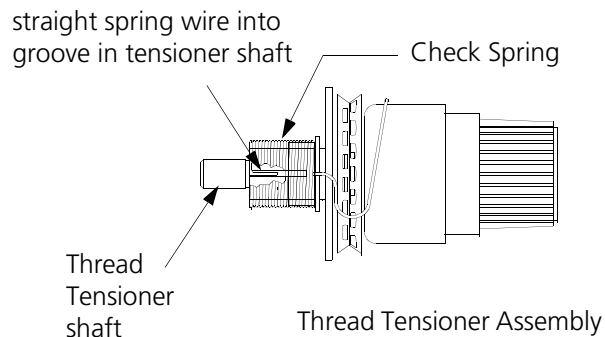

Figure 3-11
- a) Position the check spring around the end of the tensioner shaft as shown in Figure 3-11.